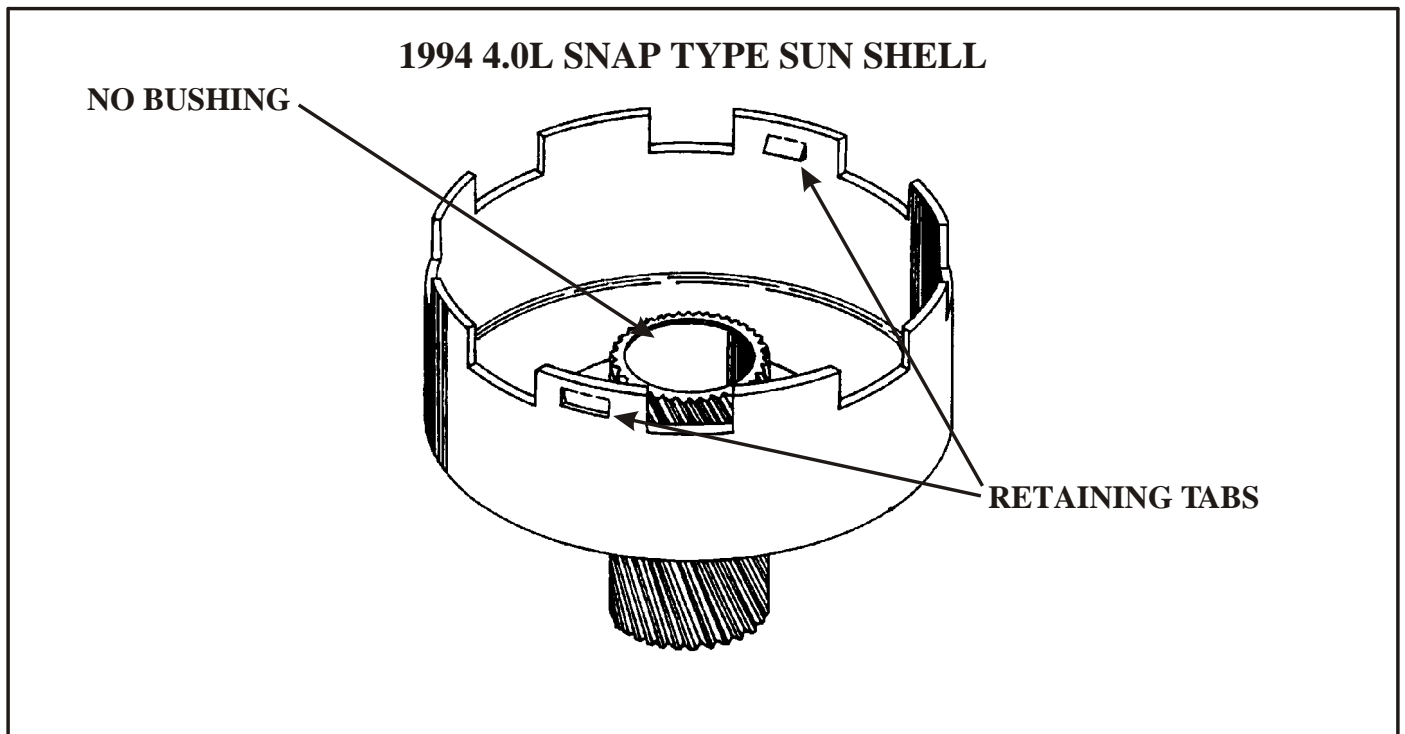

Figure 2
(2) **SUN GEAR SHELL** - “Snap Shell” was introduced in 1993 4.OL models, and has two retaining tabs stamped into the sides 180° apart, as shown in Figure 2. These tabs are used to retain the new direct clutch drum in the sun gear shell.